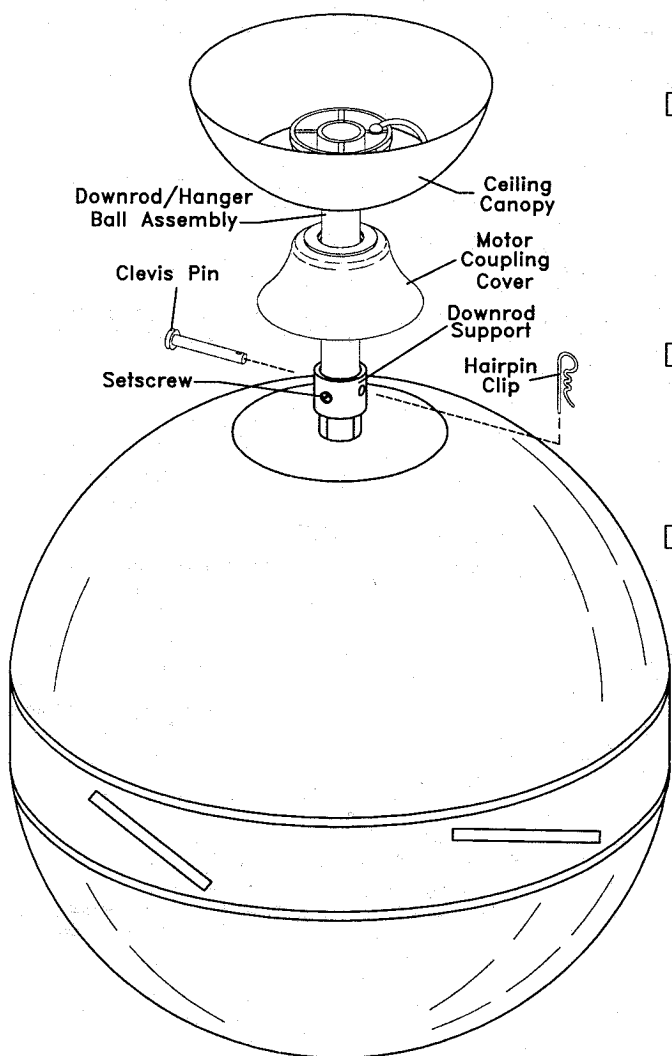

Figure 1
- ☐ 2. Pass the Downrod/Hanger Ball Assembly through the top of the ceiling canopy (Figure 1) and push the bell-shaped motor coupling cover on to the downrod as shown.
- ☐ 4. Loosen the two setscrews in the downrod support. Align the clevis pin holes in the downrod with the holes in the downrod support. Install the clevis pin and secure with the hairpin clip (Figure 1). The clevis pin must go through the holes in the downrod support and the holes in the downrod. Be sure to push the straight leg of the hairpin clip through the hole near the end of the clevis pin until the curved portion of the hairpin clip snaps around the clevis pin. The hairpin clip must be properly installed to prevent the clevis pin from working loose. Pull on the hanger ball to make sure the clevis pin is properly installed.
- ☐ 5. While pulling up on the hanger ball, securely tighten the two 3/16-24 x 3/8" setscrews in the downrod support (Figure 1).